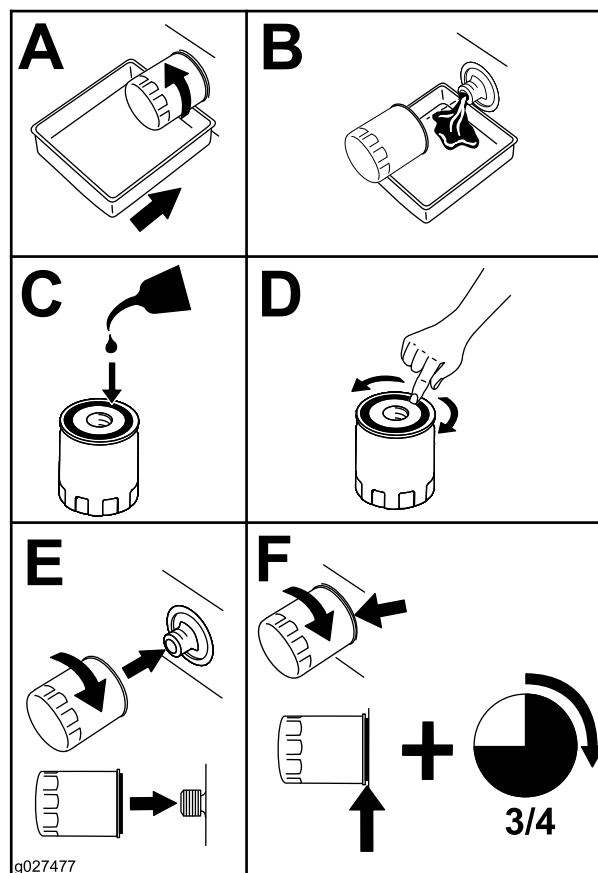

Figure 68
2. Change the engine-oil filter (Figure 68).